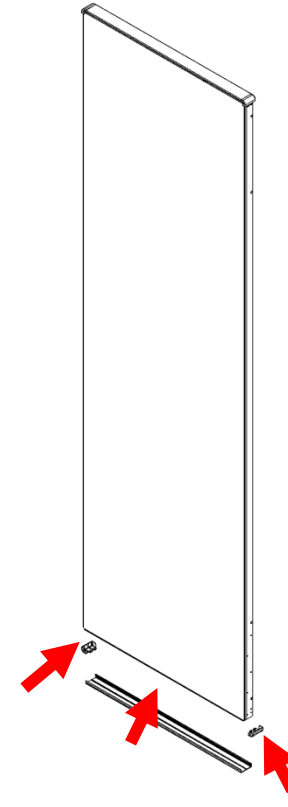

fig 5.2
- ④ Assemble the left and right corner bent plate with rectangle hole, bottom frame to the display. Please refer to fig 5.2.